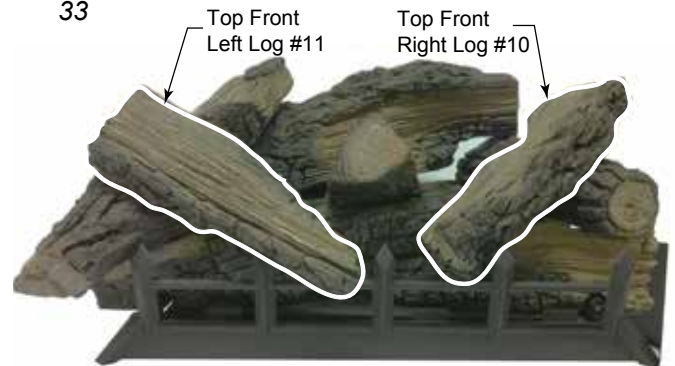

Figure 33
- Place top front right log (#10) onto mid right log (#6) by placing notch on bottom of log onto locating block on log #6. Rest bottom end of log onto grate bar. *Figure 33*
- Place top front left log (#11) onto mid left log (#8) by placing notch on bottom of log onto locating block on log #8. Rest bottom end of log onto grate bar. *Figure 33*